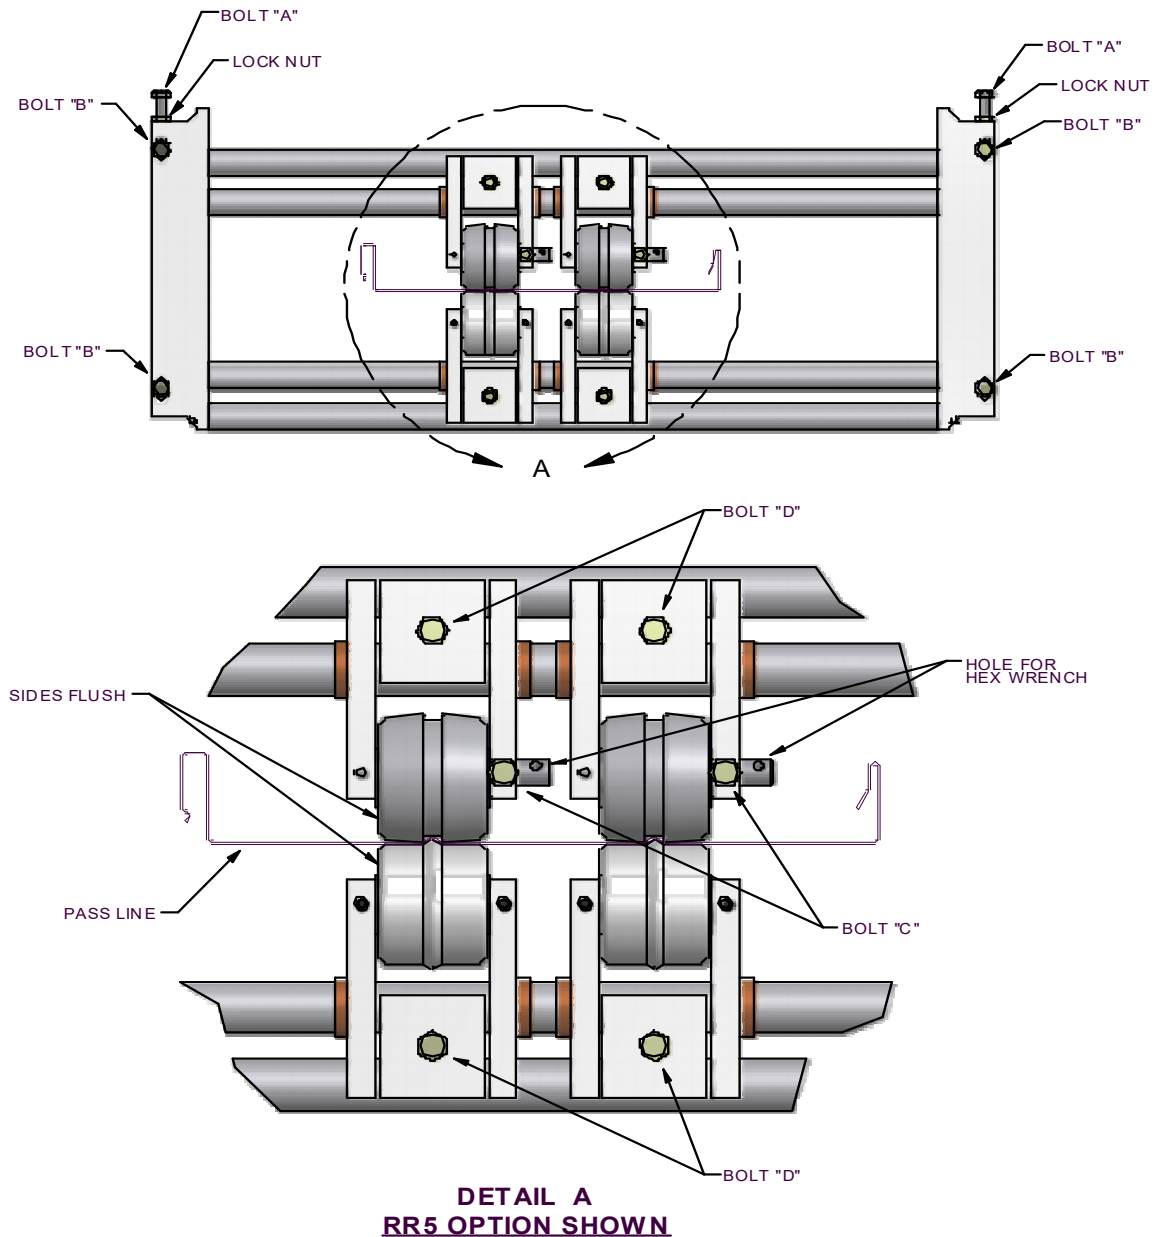

Figure 58: Bead Roller Width Change
- 9.** Loosen the slide lock bolts on the top and bottom bead assemblies (Figure 58 Bolt “D”) and slide each bottom and top roll assembly left or right to center them on the 4” and 8” marks on the panel.
12. To set or change the gap between top and bottom beads, loosen the "C" bolt on both top rollers (Figure 58).